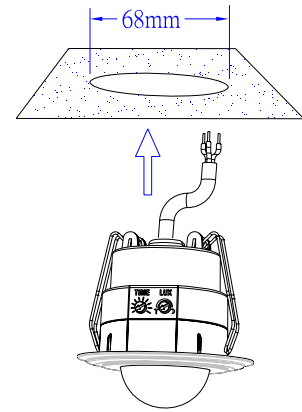

FIGURE 5
- (3) In order to install the detector to the ceiling, drill a diameter of 68mm round hole on the ceiling. Wedge the main body into the round hole directly. (FIGURE 5)